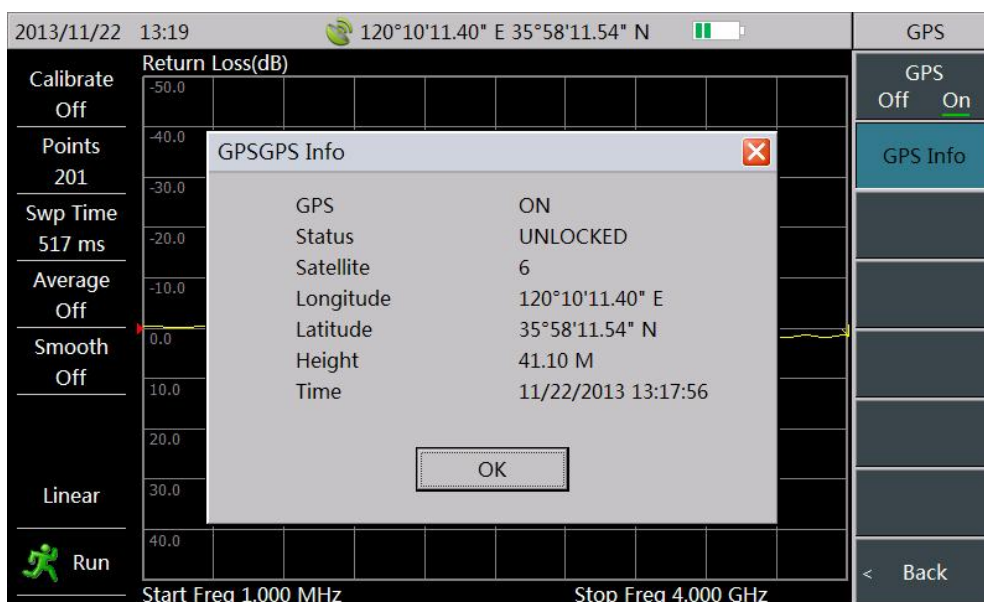

Figure 6-10 Detailed GPS Information
- You may click [GPS Info] on GPS menu bar and check relevant detailed information of GPS. As shown in Figure 6-10: